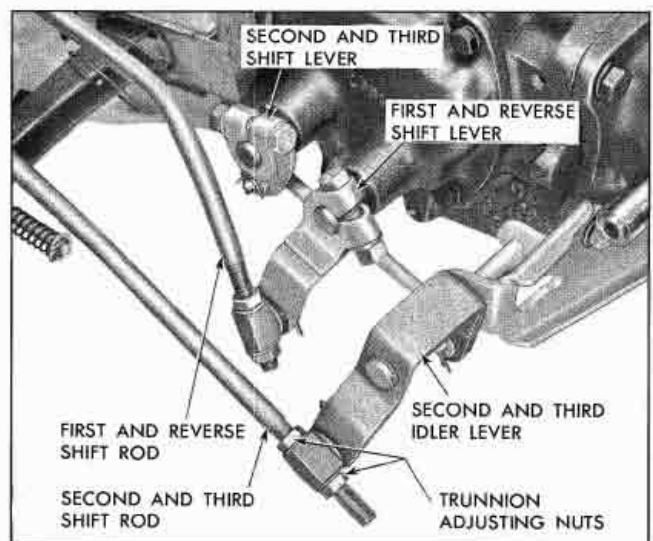

Fig. 7-56 Gearshift Linkage Connected at Transmission
7. Connect shifter rods to shifter levers (Fig. 7-56).